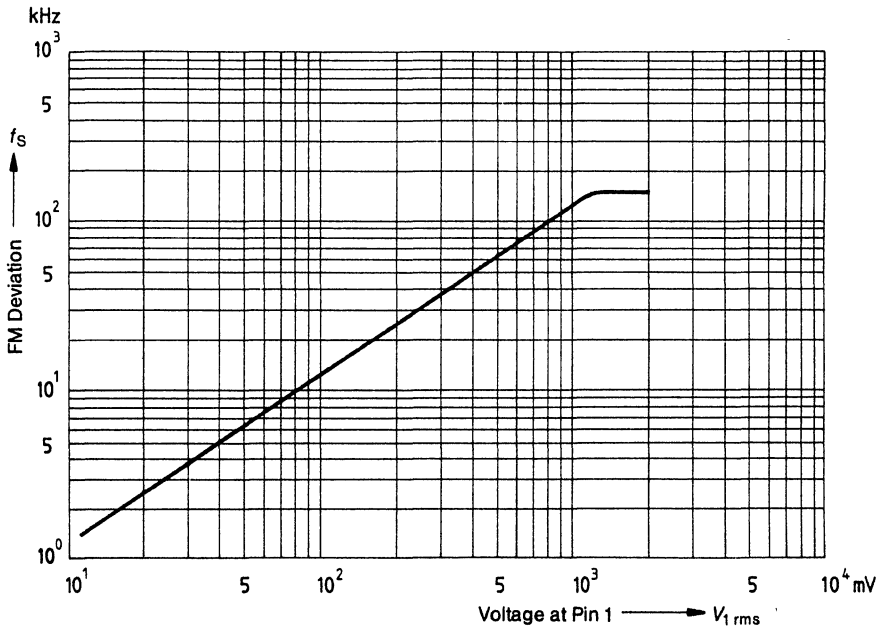

Figure 18
Figure 18 a
Figure 18 b
**Figure 18 c**
Figure 18 d